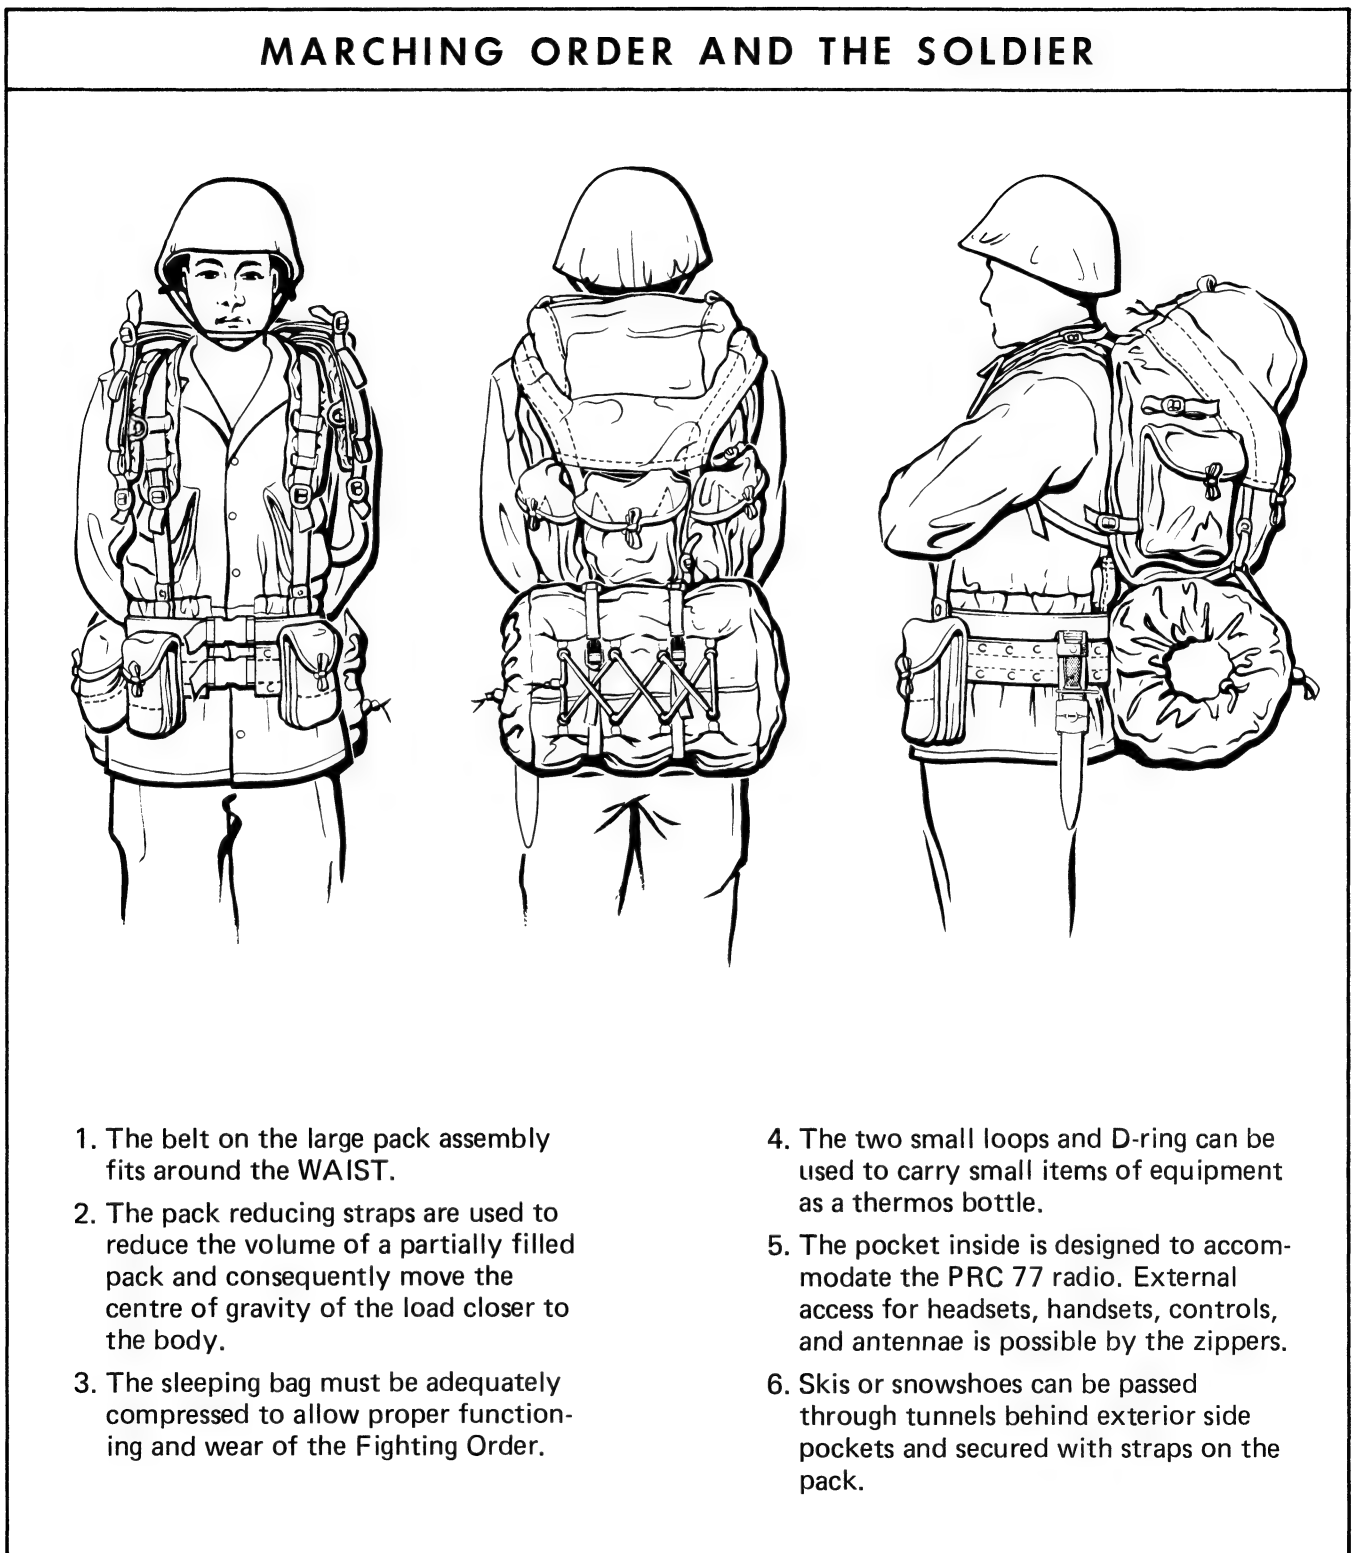

Figure 4-5 Marching Order and the Soldier
5. Refer to Figure 4-5 for details.